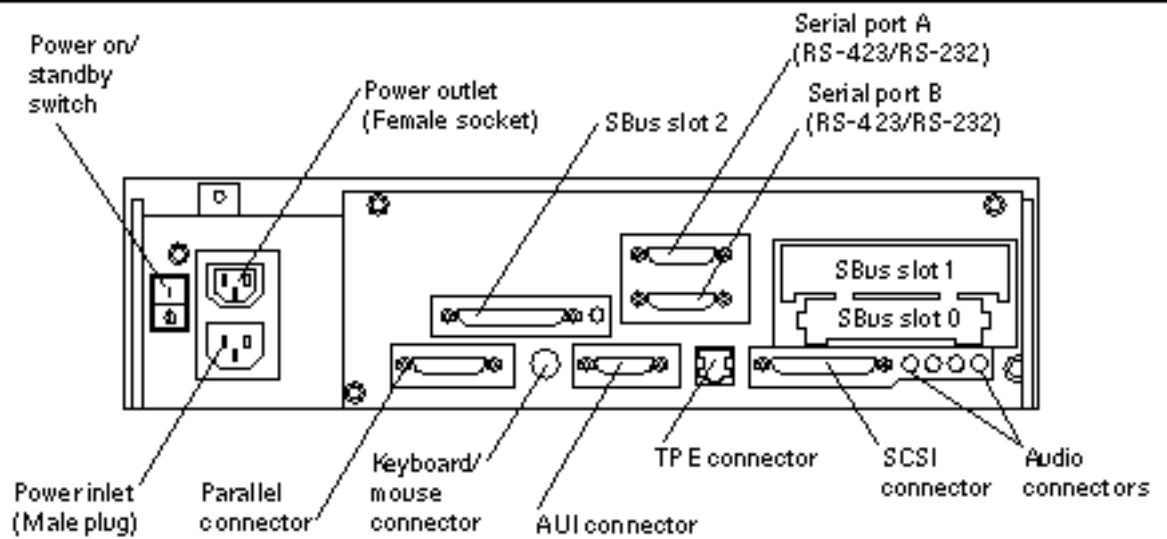

Figure 1-2 Rear View of the System
- Figure 1-2 shows the rear view of the system.